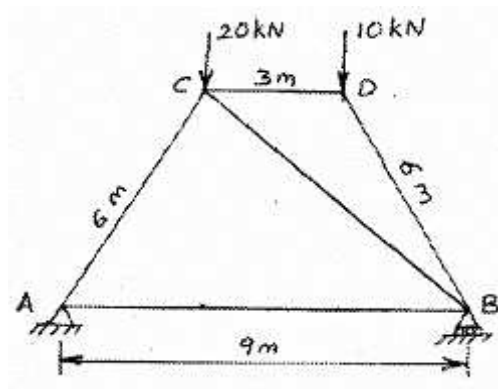

Figure 2:
3. The pin jointed truss shown in Figure 2 is loaded with two point loads of 20kN and 10kN at the upper joints. Evaluate the forces in the members using the method of tension coefficients. [16]